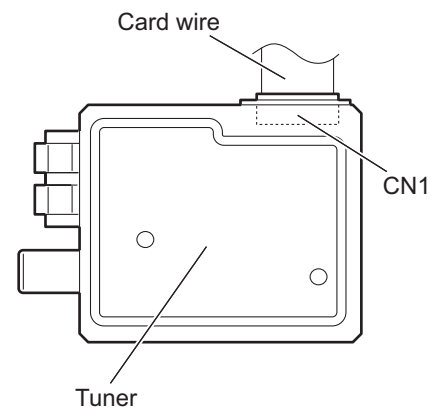

Fig.13
- (2) Disconnect the card wire from the connector **CN1** on the tuner. (See Fig.13.)